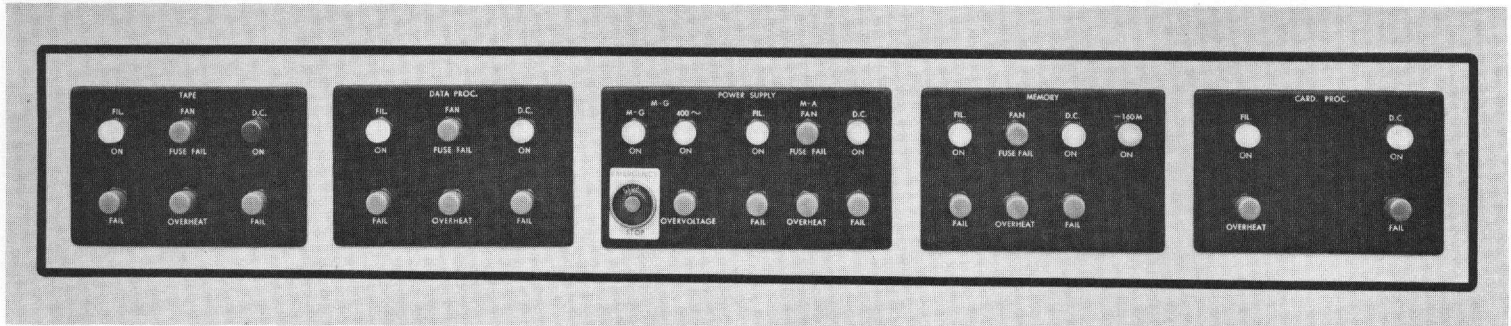

Figure 3-17. Power Supply Control Panel.
2. Depress "EMERGENCY" button on visible Power Supply panel (Figure 3-17) or Master Power Control Panel.